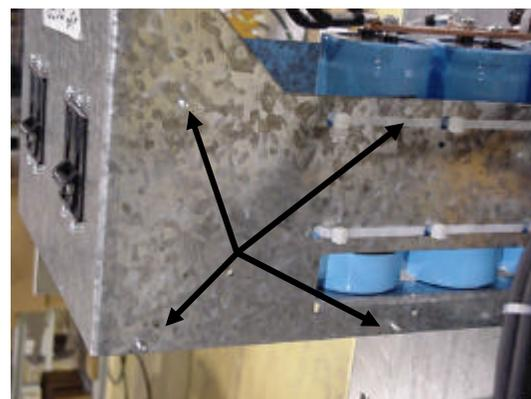

Figure 2
- 2) Mount the supplied nylon standoffs, by screwing them onto the four (4) existing studs on the operator's right side of the circuit breaker mounting bracket (**Fig. 2**). Pliers may be needed to screw the standoffs onto the studs.
- 3) Rotate all four (4) standoffs so the clip openings will accept the edge of the pc board between them.